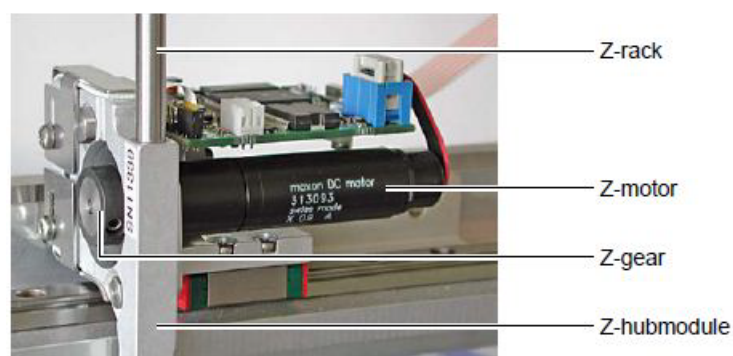

Figure 10.24 Z-Motor Assembly
3. Disassemble the Z-motor assembly (see Figure 10.24).